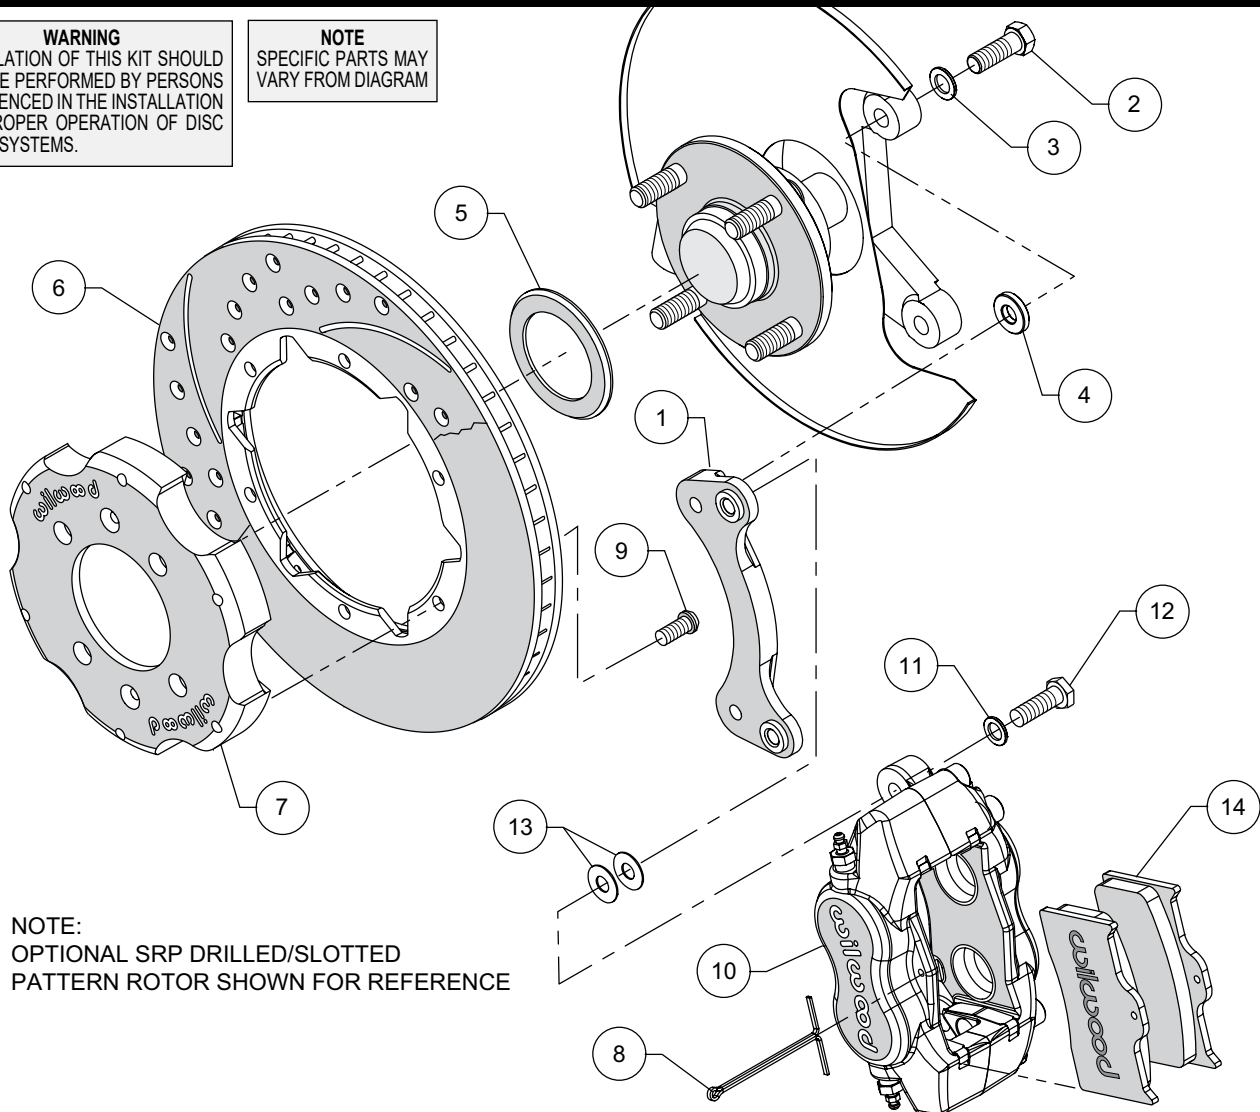
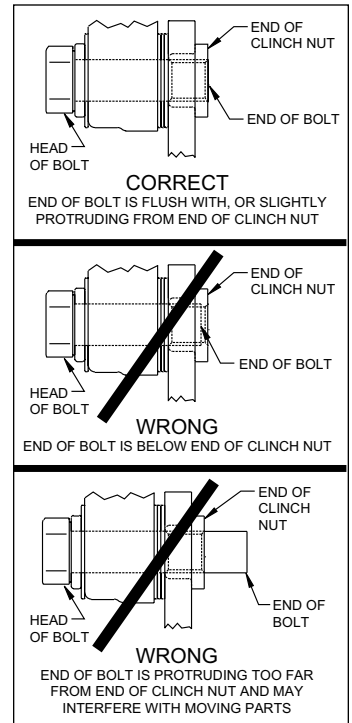

Figure 1. Typical Installation Configuration
Figure 3. Clinch Nut Engagement Diagram
NOTE: Numbers in parenthesis refer to the parts list and Figure 1 on the preceding pages.
CAUTION: All mounting bolts must fully engage clinch nuts. Be sure to check that all bolts are either flush or protruding through flanged side of clinch nut after shimming, Figure 3.
- Orient the caliper mount bracket (1) as shown in Figure 1 and Photo 1, and install using bolts (2) and washers (3). Place a spacer (4) on each bolt between the bracket and caliper mounting bosses, Figure 1 and Photo 2. Ensure that the flanged heads of the clinch nuts in the bracket are facing outboard, Photo 1. Temporarily tighten the mounting bolts. **NOTE:** The bracket must fit squarely against the mount bosses on the upright. Inspect for interference from casting irregularities, machining ridges, burrs, etc. Remove bolts one at a time, apply red *Loctite*® 271 to the threads and torque to 30 ft-lb.
- Orient the rotor (6) and the hat (7) as shown in Figure 1 and Photo 3. Attach rotor to hat using bolts (9). Using an alternating sequence, apply red *Loctite*® 271 to the threads, and torque to 25 ft-lbs.
- Slide the rotor registration adapter (5) onto the axle register on the axle hub with the smaller O.D. facing toward the rotor/hat (6/7), Photo 4. Slide the hat/rotor assembly onto the axle hub. **NOTE:** The hat must fit flush against the axle hub flange or excessive rotor run out may result. Install three lug nuts (finger tight) to keep the hat/rotor assembly in place while continuing with the installation.
- NOTE:** Please reference the caution statement at the beginning of the assembly instructions. Mount the caliper (10) onto the caliper mounting bracket (1) using bolts (12) and washers (11), as shown in Figure 1. Initially place two .035" thick shims (13) on each bolt between the caliper and the bracket, Photo 5. Temporarily tighten the mounting bolts and view the rotor (6) through the top opening of the caliper. The rotor should be centered in the caliper, Photo 6. If not, adjust by adding or subtracting shims between the bracket and the caliper. Always use the same amount of shims on each of the two mounting bolts. **NOTE:** The end of each bolt must be flush with or slightly protruding from the head of the clinch nut, as shown in Figure 3. If necessary place spare shims between washer (11) and caliper mounting ear to achieve the proper clinch nut engagement. Once the caliper alignment and clinch nut engagement are correct, remove the bolts one at a time, apply red *Loctite*® 271 to bolt threads, and torque to 40 ft-lb.
- Install the disc brake pads (14) into the caliper, with the friction material facing the rotor (6), Photo 7. Secure pads in place using cotter pin (8), Photo 8.